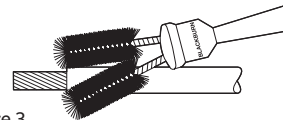

Figure 3
3. Wire brush (Reference ABB catalog number WWB1) the cable side which will be inserted into the connector (Figure 3).